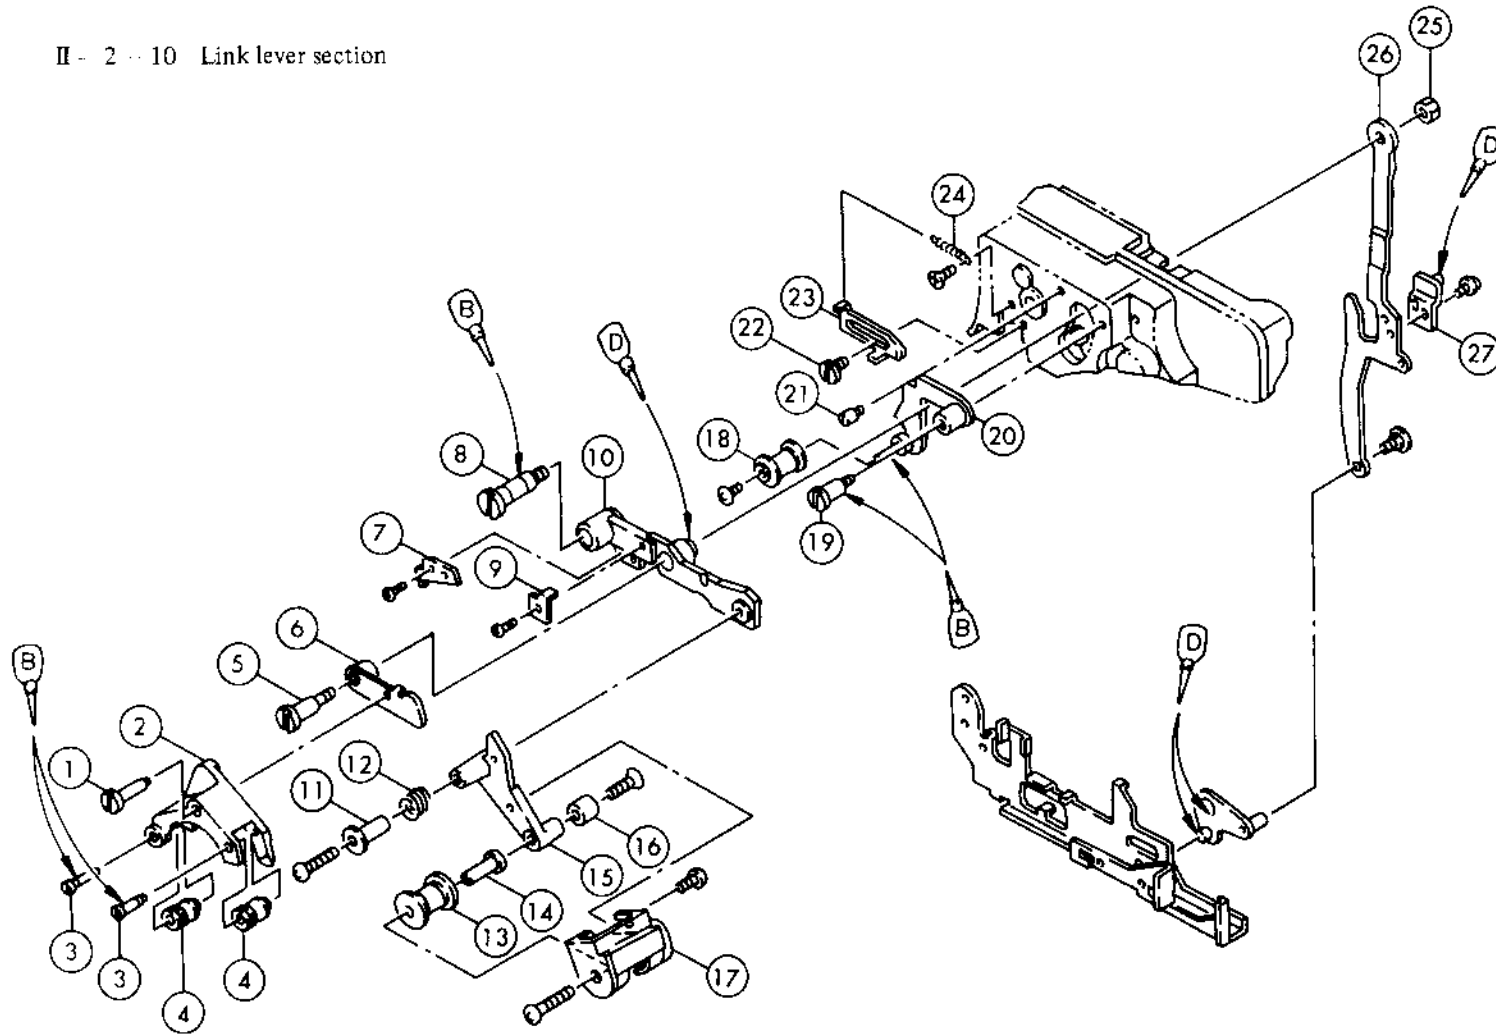

Fig. 37
3. Remove ⑧ and ⑫, then take out assy parts of ① - ⑦ and ⑨ - ⑰. Take utmost care when unscrewing ⑧ so as not to damage the screw head, taking note that the ⑧ is firmly tightened. Also, note that ⑫ is firmly tightened with ⑩ in W-nut method.
4. For further disassembly, refer to Fig. 37.